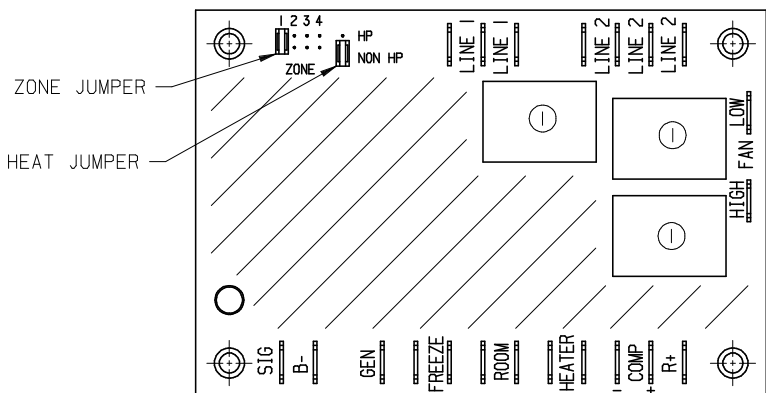

FIGURE 3
2. Set the "zone" jumper to the proper zone position for the particular position the air conditioner or heat pump will be in the coach (**Refer to Figure 3-Zone 1 is shown**). Zones should be numbered from the front to the back of the coach with Zone 1 in front.
3. Set the "HP"/"NON HP" jumper to "HP" if the unit is a heat pump or to "NON HP" if the unit is not a heat pump (**Refer to Figure 3 – Non HP is shown**).